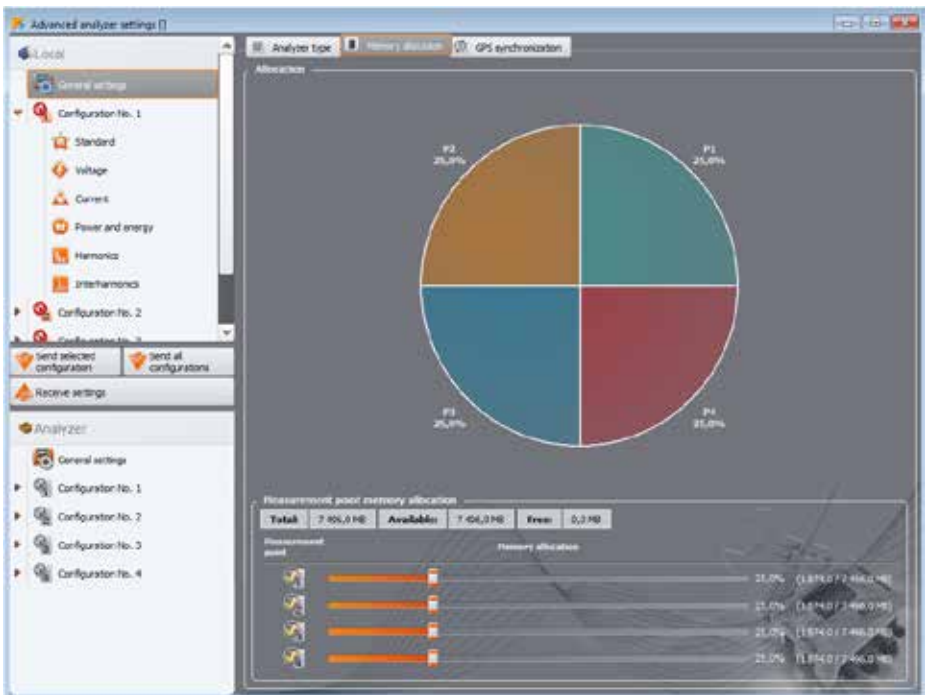

Fig. 19. Memory allocation.
- **PQM-701 PQM-702 PQM-703 PQM-710 PQM-711 MEMORY ALLOCATION**: this tab (Fig. 19) allows user to allocate space of the analyzer's memory card to the individual measurement configurations. Use four sliders to allocate desired amount of memory to a given configuration (in MB and %). In the middle part of the screen you will see a visualization of memory allocation. All available card memory (100%) may be freely divided among the four configurations. It is possible to allocate 100% of the memory to a single configuration; in such case recording in other configurations is impossible - for them only "live" preview of mains parameters is available. All measurement configurations have linear recording in the memory, when the memory allocated to a given configuration is used up, the recording stops. Please remember that modification of memory allocation will require deleting all data from the memory card. Thus, it is advisable to download such data and save it on a local disk. New memory allocation is sent to the analyzer after clicking **SEND** button (along with configurations of all measurement points).